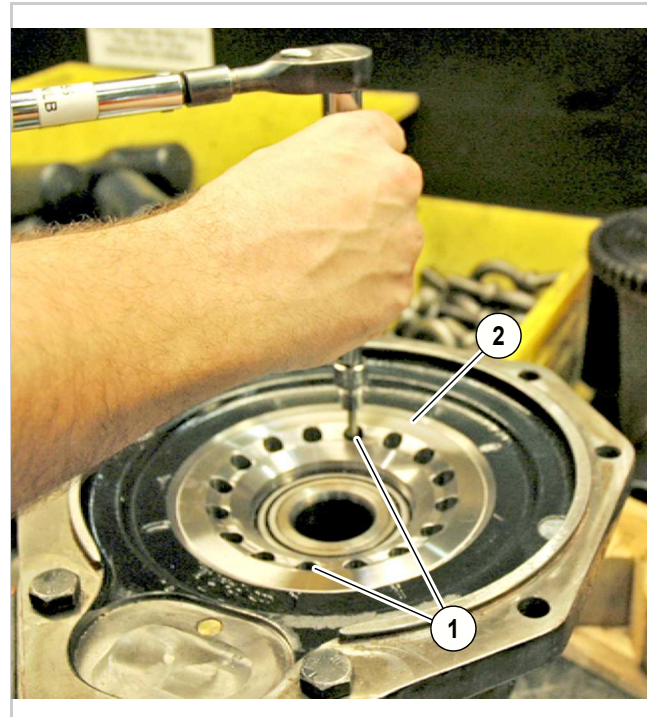

Fig. 25 (26433)
- Use the spanner socket (1) and torque the adjustment plate to 102 Nm (75 ft lb).
- Examine the set screw holes (1, Figure 25) in the drive unit sub-assembly and adjustment plate (2). If the holes are not aligned, tighten the adjustment plate (2) until they are aligned.